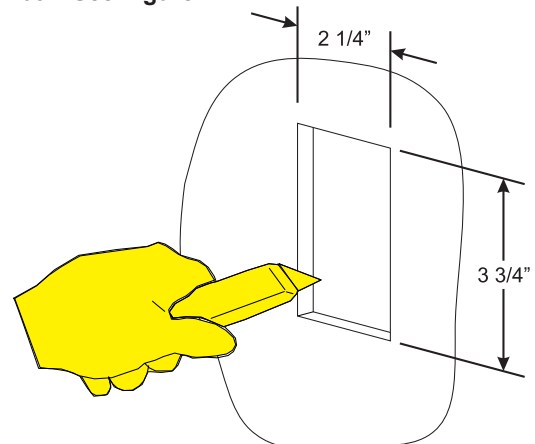

Figure 1
2. Create a 2 1/4" wide by 3 3/4" tall opening in the wall for the wall box. **See Figure 1.**